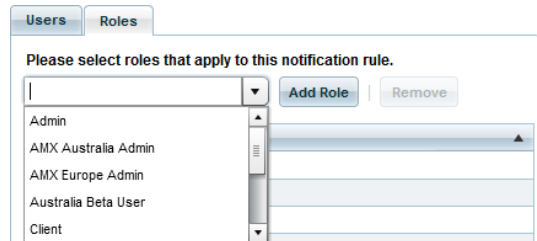

FIG. 339 Selecting Roles (Edit Notification Rule dialog - Recipients tab)
- c. In the *Roles* tab, click the down arrow to select from the drop-down menu of User Roles (FIG. 339).